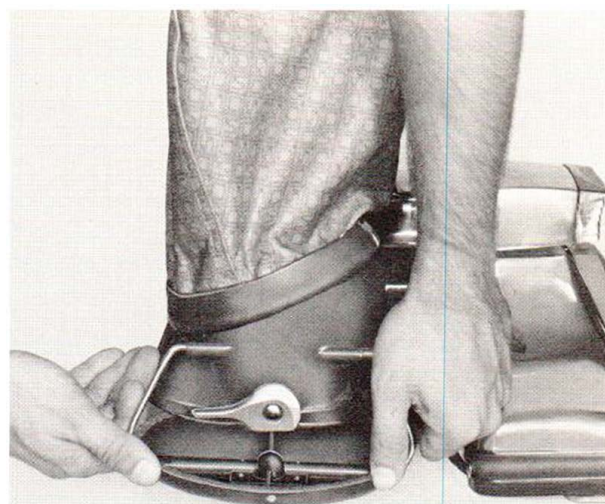

Figure 4-6. Sani-Em-Tor bottom tray
(2) If only Sani-Em-Tor bottom tray gasket (19) is worn, pull it from the groove in the bottom tray. Clean the groove and cement a new gasket in place with Kirby T106 adhesive.
(3) Position the Sani-Em-Tor bottom tray so that the side with the small rivet is toward the clamp on the Sani-Em-Tor body. Engage the two ends of the bail in the holes in the Sani-Em-Tor body as shown in figure 4-6.